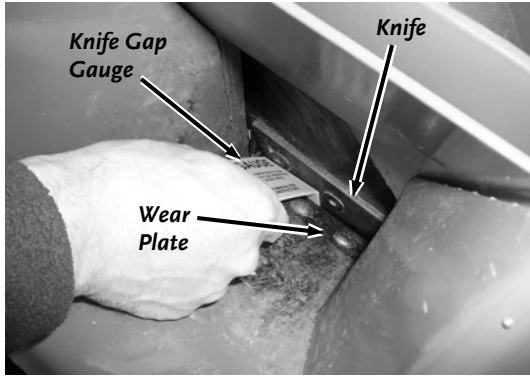

Figure 33
3. Slide the Knife Gap Gauge in between the Knife and Wear Plate to check the clearance (**Figure 33**).
2. Take the Gap Gauge and slide it between the Knife and Wear Plate (**Figure 33**). Adjust the Wear Plate against the Knife Gauge and tighten the outside Locknut, check the gap, tighten the inside Locknut and then the center Locknut.